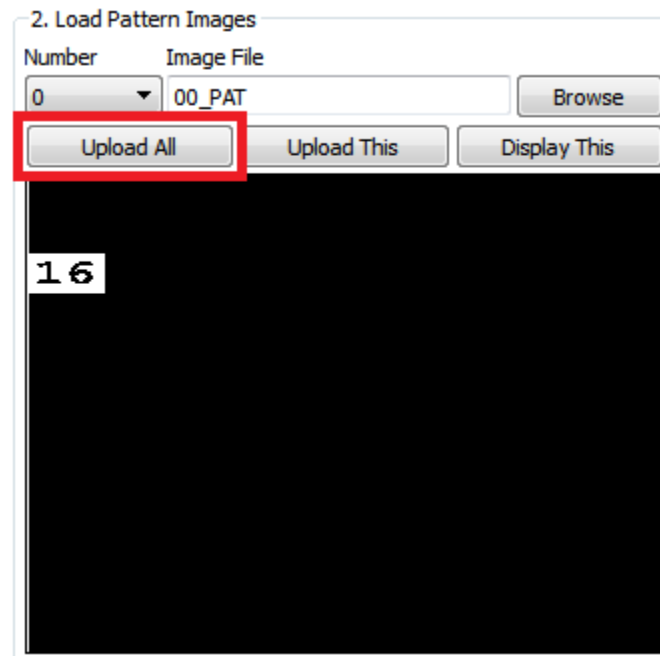

Figure 2-41. DLP LightCrafter GUI Upload All Pattern Images Button
6. Upload the patterns to DLP LightCrafter by clicking the Upload All button as shown in Figure 2-41.